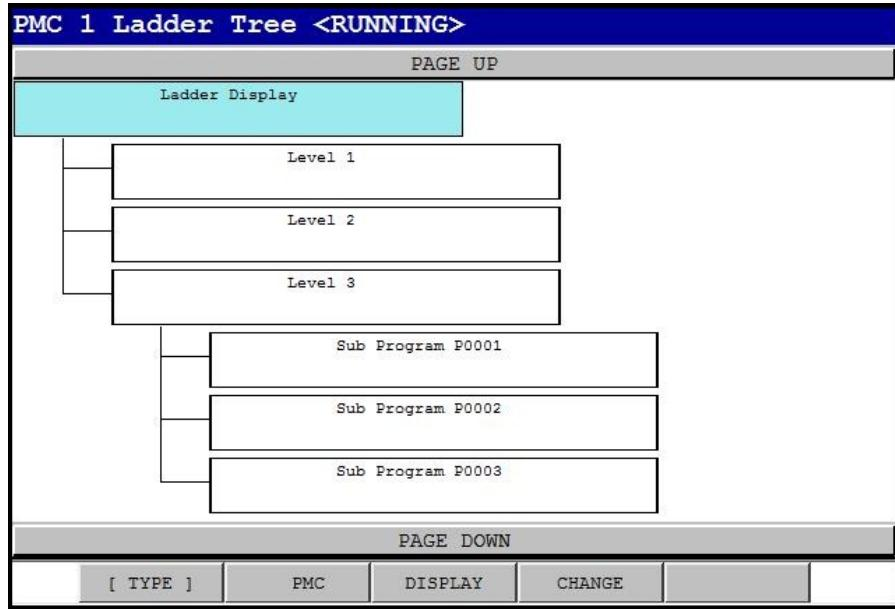

Fig. 6.3 (a) PMC Ladder Tree view
- 5 Use the PMC key to select the PMC path and a screen such as that shown in Fig. 6.3 (a) appears for the specific PMC path.